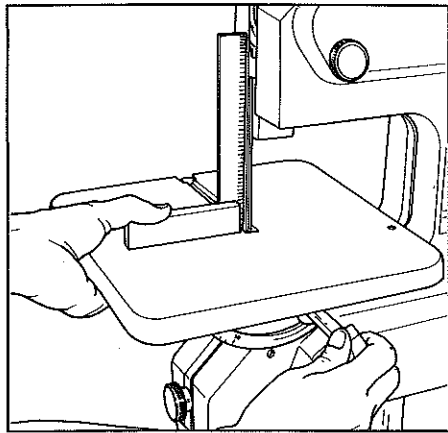

Figure 6. Square the table to the belt.
7. **Square the table to the belt.** Position the head of a combination square against the face of the belt (51). Loosen the table lock knob (50). (See Figure 6.) Adjust the table as required to bring the square head in full contact with the belt surface. Tighten knob (50).